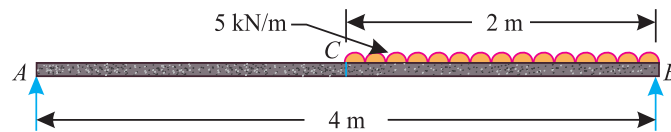

Fig. 16.14.
3. A simply supported beam of span 4 m is carrying a uniformly distributed load of 5 kN/m as shown in Fig. 16.14.